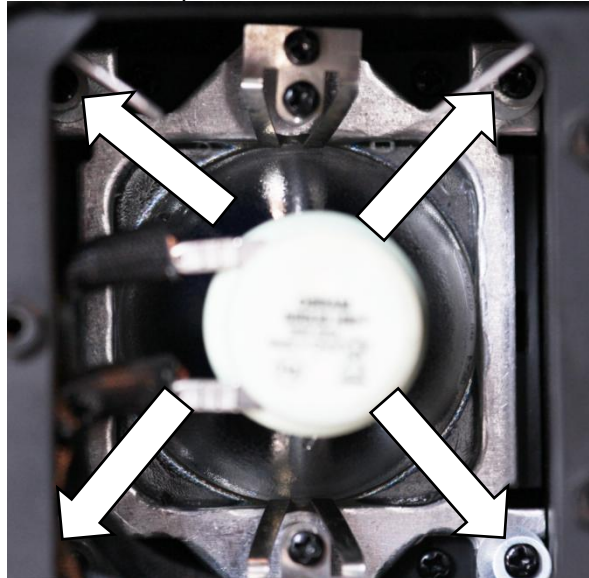

Figure 6 - Hotspot correction screws
- You will see a hotspot in the beam projected on the wall. Adjust this hotspot using the screw as shown in Fig. 6. The hotspot should be as much as possible in the center of the beam.